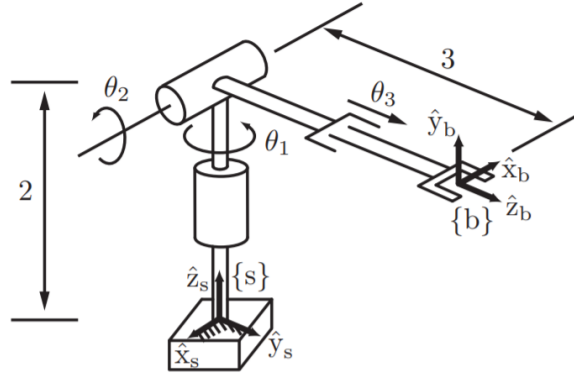

Figure 3: RRP robot shown in its zero position.
3. (6pts) The RRP robot in Fig. 3 is shown in its zero position.
(6pts) The RRP robot in Fig. 3 is shown in its zero position.